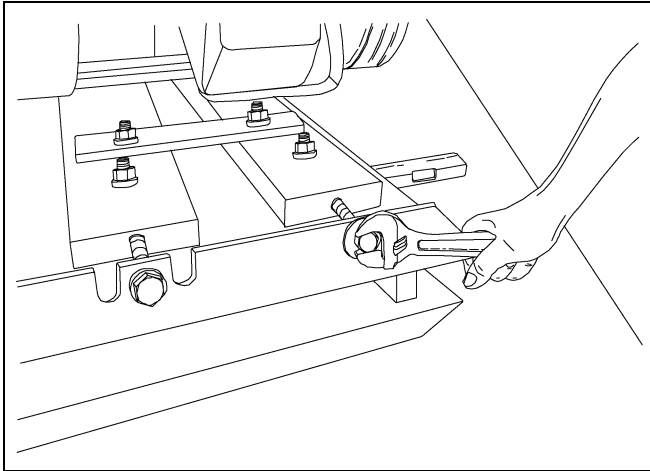
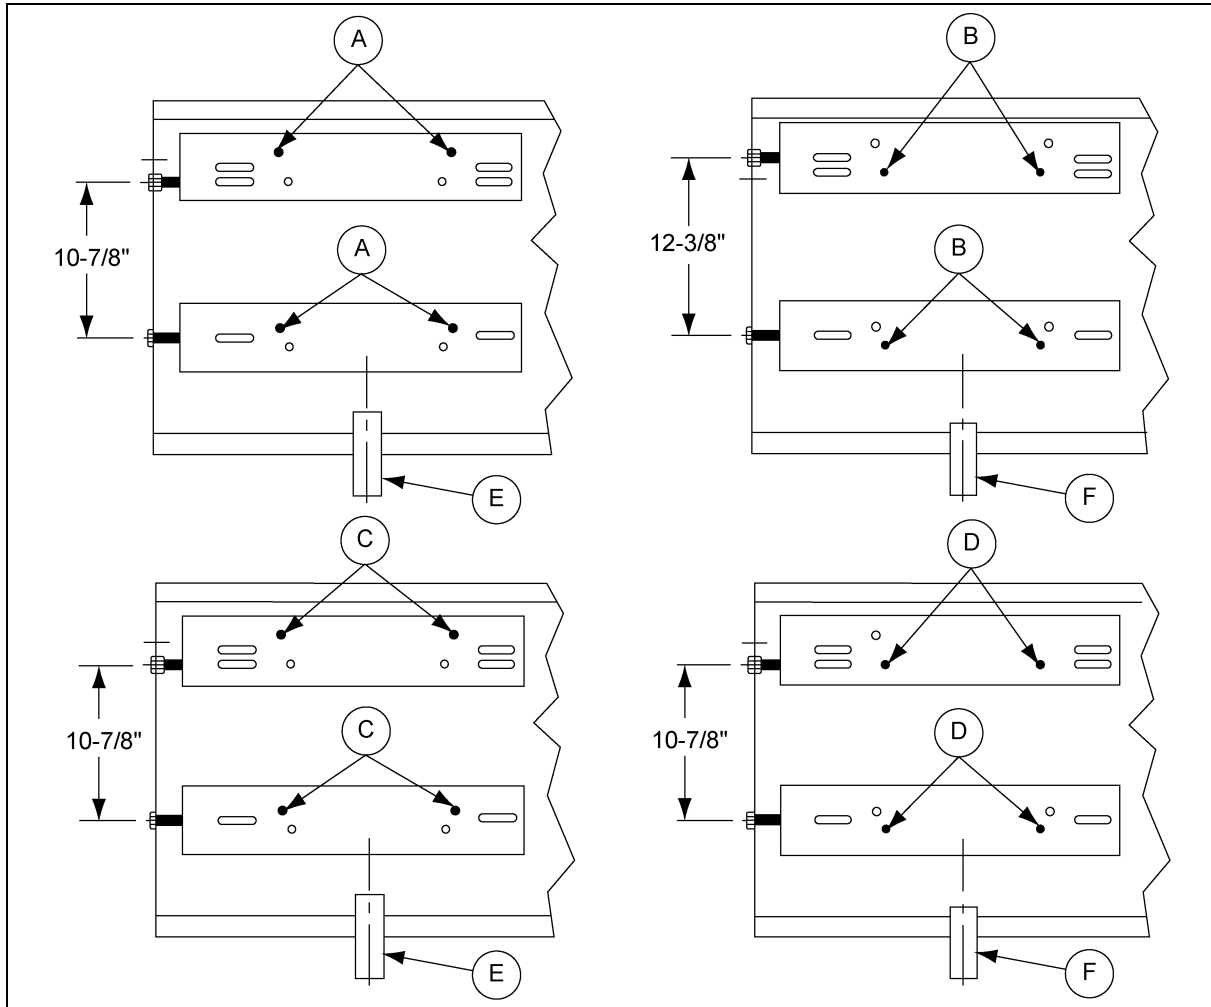

Figure 7D
Figure 7L
3. Check the motor nameplate for the correct motor frame size. Then refer to Figure 7L on Page 23 to determine proper mounting holes and spacing of the motor mount channel. The spacing of the motor mount channels is changed by moving the channel to the proper notch cut into the main base of the blower platform. See Figure 7D and refer to Figure 7L on Page 23. Finish by bolting the motor securely to the channels. Leave the four (4) 1/2" carriage bolts loose, holding the channels to the main frame.
5. Place the matching set of V-belts on the pulleys. Tighten the belts by evenly turning the cap screws clockwise. Belts should have 3/8" deflection at 10 pounds pressure per belt. (See Figure 7D.)